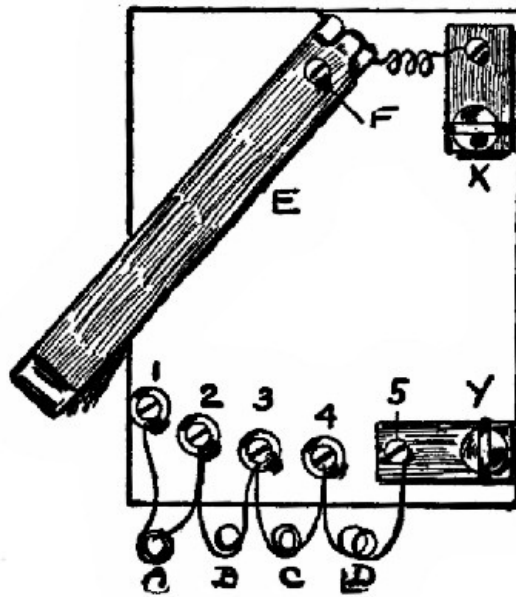

Fig. 25.
**56. Switch.** Fig. 25. By increasing the number of contact points and the wires leading from them, a switch may be made to throw in one or more pieces of apparatus. This variety of switch is useful in connection with resistance coils (Index). By joining the ends of the coils with the points 1, 2, 3, etc., more or less resistance can be easily thrown in by simply swinging the lever, *E*, around to the left or right. The uses of this will be again referred to.
*Details.* The base of the one shown in Fig. 25 is  $4 \times 5 \times \frac{7}{8}$  in. thick. The switch, *E*, is a band of 2 thicknesses of tin  $\frac{5}{8}$  in. wide. It is pivoted at *F* with a screw. To the end of *E* is fastened a copper wire, which leads to the upper binding-post, *X* (App. 46). The apparatus has 5 contact points, marked 1, 2, 3, etc. These consist of brass screws and copper washers. With *F* as a center draw the arc of a circle that has a radius of 4 in. Place the screws 1, 2, etc., along this arc, and about  $\frac{5}{8}$  in. apart, center to center; that is, the screws are all 4 in. from *F*, and are, therefore, in the form of a curve.
The last screw forms a part of the binding-post, *Y*. Suppose 4 pieces of apparatus, marked *A*, *B*, *C*, and *D*, be connected with 1, 2, etc., as shown. These may be, for example, coils of wire to be used as resistance coils. If the current enters at *X*, it will pass along at *E* and be ready to leave at *Y*, as soon as *E* touches one of the contact points. If *E* be placed upon 1, the current will be obliged to pass through all of the coils, *A*, *B*, etc., before it can get to *Y*. In this case the resistance will be greatest. If *E* be now moved on to 2, only *A* will be cut out, and the total resistance reduced. By placing *E* upon 4, but one coil, *D*, will be in the circuit. When *E* is upon 5 the current will pass through the switch with practically no resistance. This is the principle upon which current regulators work. (Study resistance in text-book.) When *E* is in the position shown in Fig. 25 no current can pass.